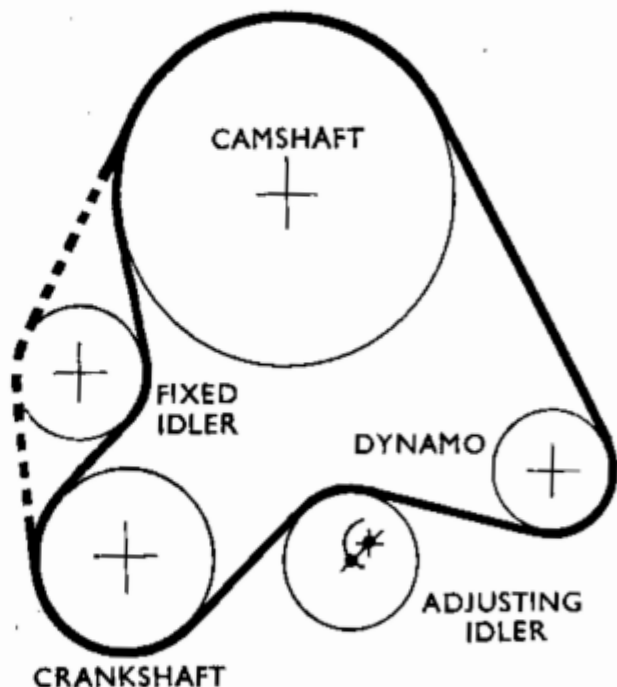

Fig. 44.
64. **CHAIN DRIVE ARRANGEMENT.** Generator sprockets of 15, 18 and 20 teeth are available to provide alternative gear ratios for generator or alternator drives and the run of the timing chain round the fixed idler sprocket differed on earlier engines according to the size of generator sprocket and length of chain employed, see Fig. 44. Engines up to No. 135274 were fitted with an adjusting idler having a $\frac{1}{4}$ in. (12.7 mm.) throw on its eccentric. With these engines therefore it is wise before removal to observe on which side of the fixed idler sprocket the chain is fitted, so that it may be re-assembled in the same position and thus ensure that full range of adjustment is preserved on the adjusting idler.